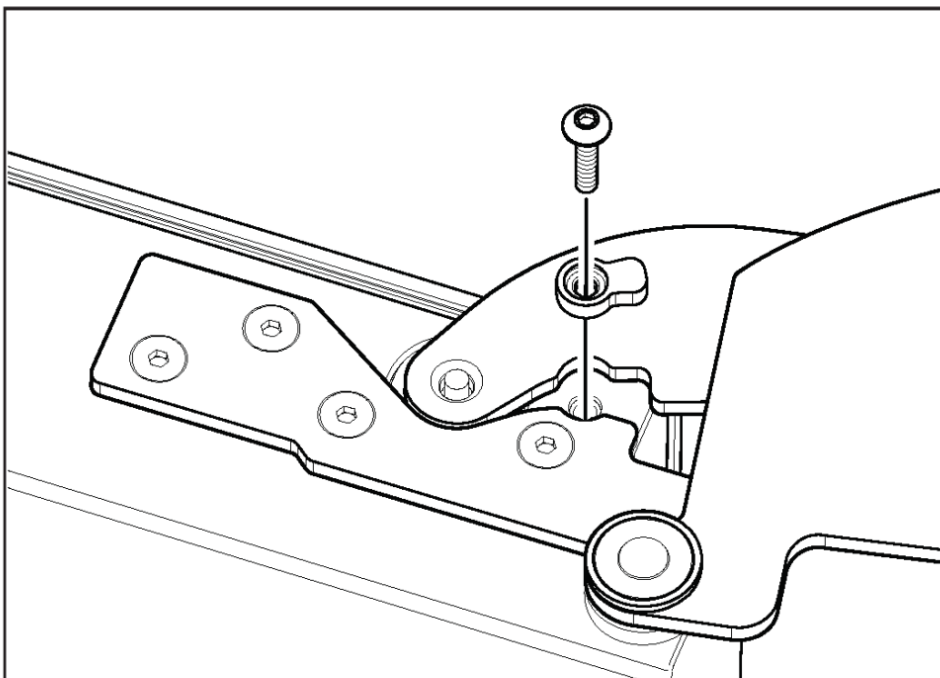

Figure 2-14. 90 Degree Door Stop
2. At top of door, insert door stop cam down between door hinge and door closer arm as shown in Figure 2-14.
3. Insert screw through door stop and into door as shown in Figure 2-14.